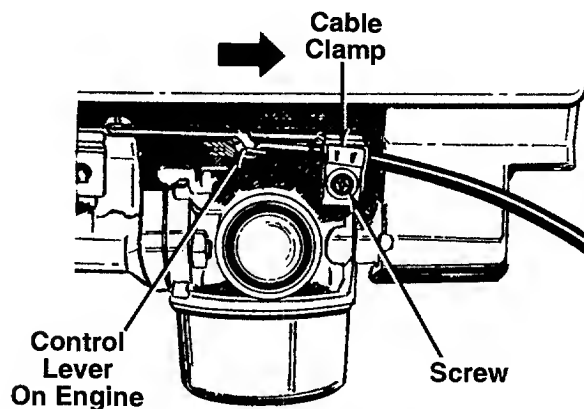

FIGURE 10B.—Tecumseh Engines
**NOTE:** If you have a Tecumseh engine, simply loosen the screw shown in figure 10B so the cable will move freely beneath the clamp. It is not necessary to remove the screw and clamp completely.